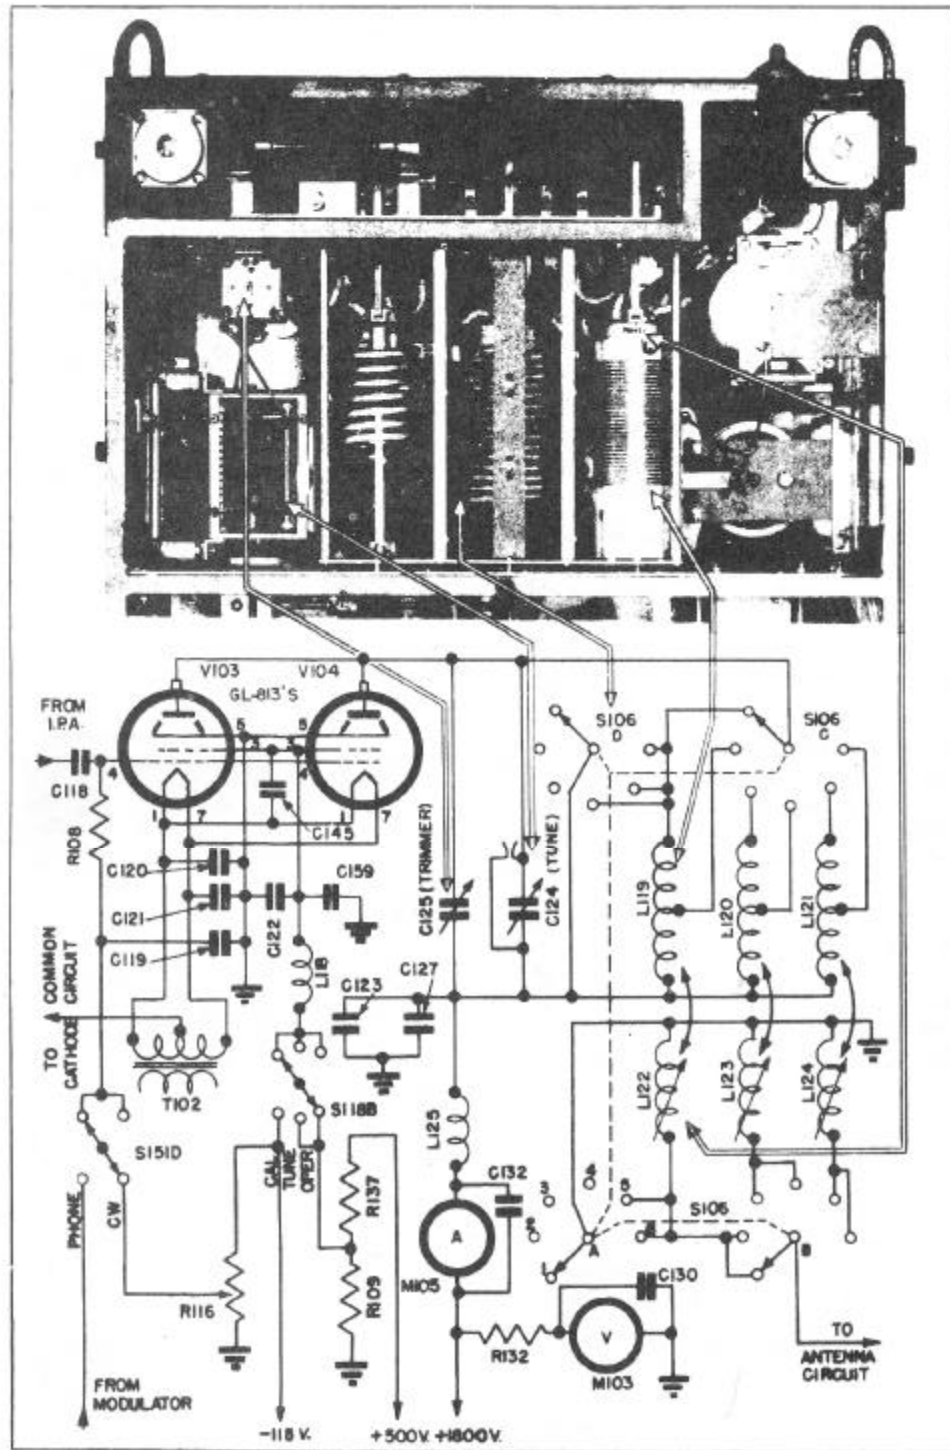

Figure 2-4—Power Amplifier Schematic
**5. POWER AMPLIFIER (P.A.) (See Figure 2-4).**